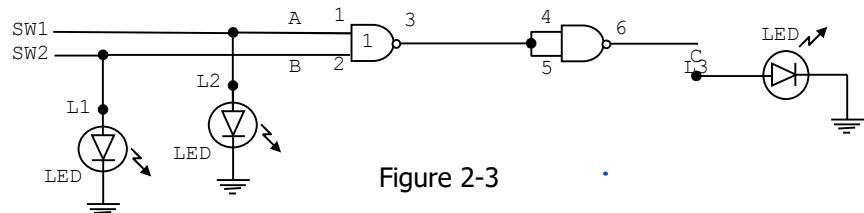

Figure 2-3
13. Wire the circuit shown in figure 2-3. With SW1 (A) and SW2 (B), apply the states shown in Table 5. Record the state for each set of inputs. Observe indicators L1, L2, and L3 to obtain your input and output data. Use positive logic (binary 1 = on, binary 0 = off).
14. Study the circuit in Figure 2-3 and the data in Table 5. What logic function is being performed? _____